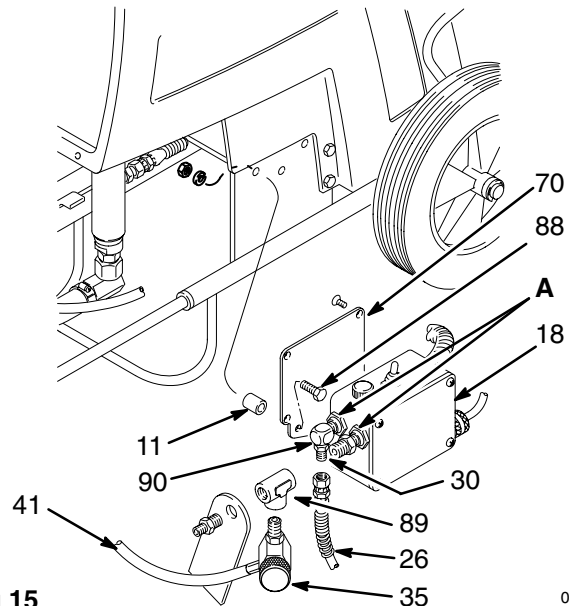

Fig 15
4. Remove the screws (88). See Fig 15.
5. Pull the pressure control (18) away from the conduit (13f) while carefully guiding the leads through the bushing (305), one at a time.
6. Remove the mounting bracket (70) and fittings (90,30). Install these parts on the new pressure control.